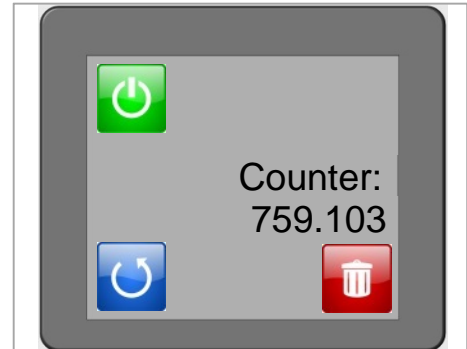

Fig. 7.5
- + Pay attention to the fact that the machine is set for the full working cycle  (Fig. 7.5).